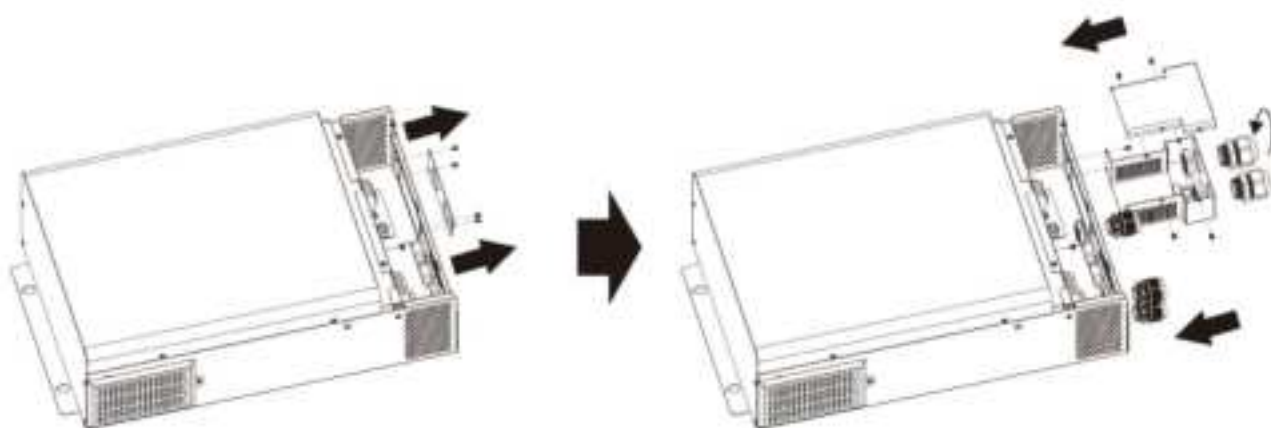

Fig. 3: Installation of cable glands and battery wiring extension box
1. Remove faceplate by removing 4 screws (**Fig. 3**, left).
2. Assemble battery wiring extension box and mount in place of the faceplate (**Fig. 3**, right) with screws.
3. Install the 5 included cable glands (**Fig. 3**, right).